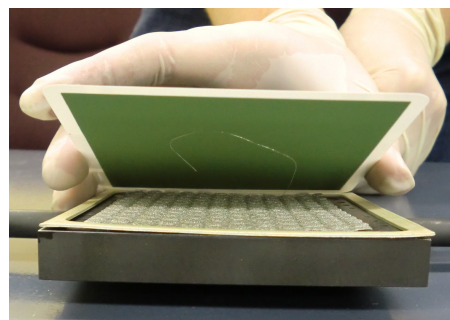

Figure 13
6. Carefully align the cell and place it anode side down against the voltage wire and nickel mesh (Figure 13).